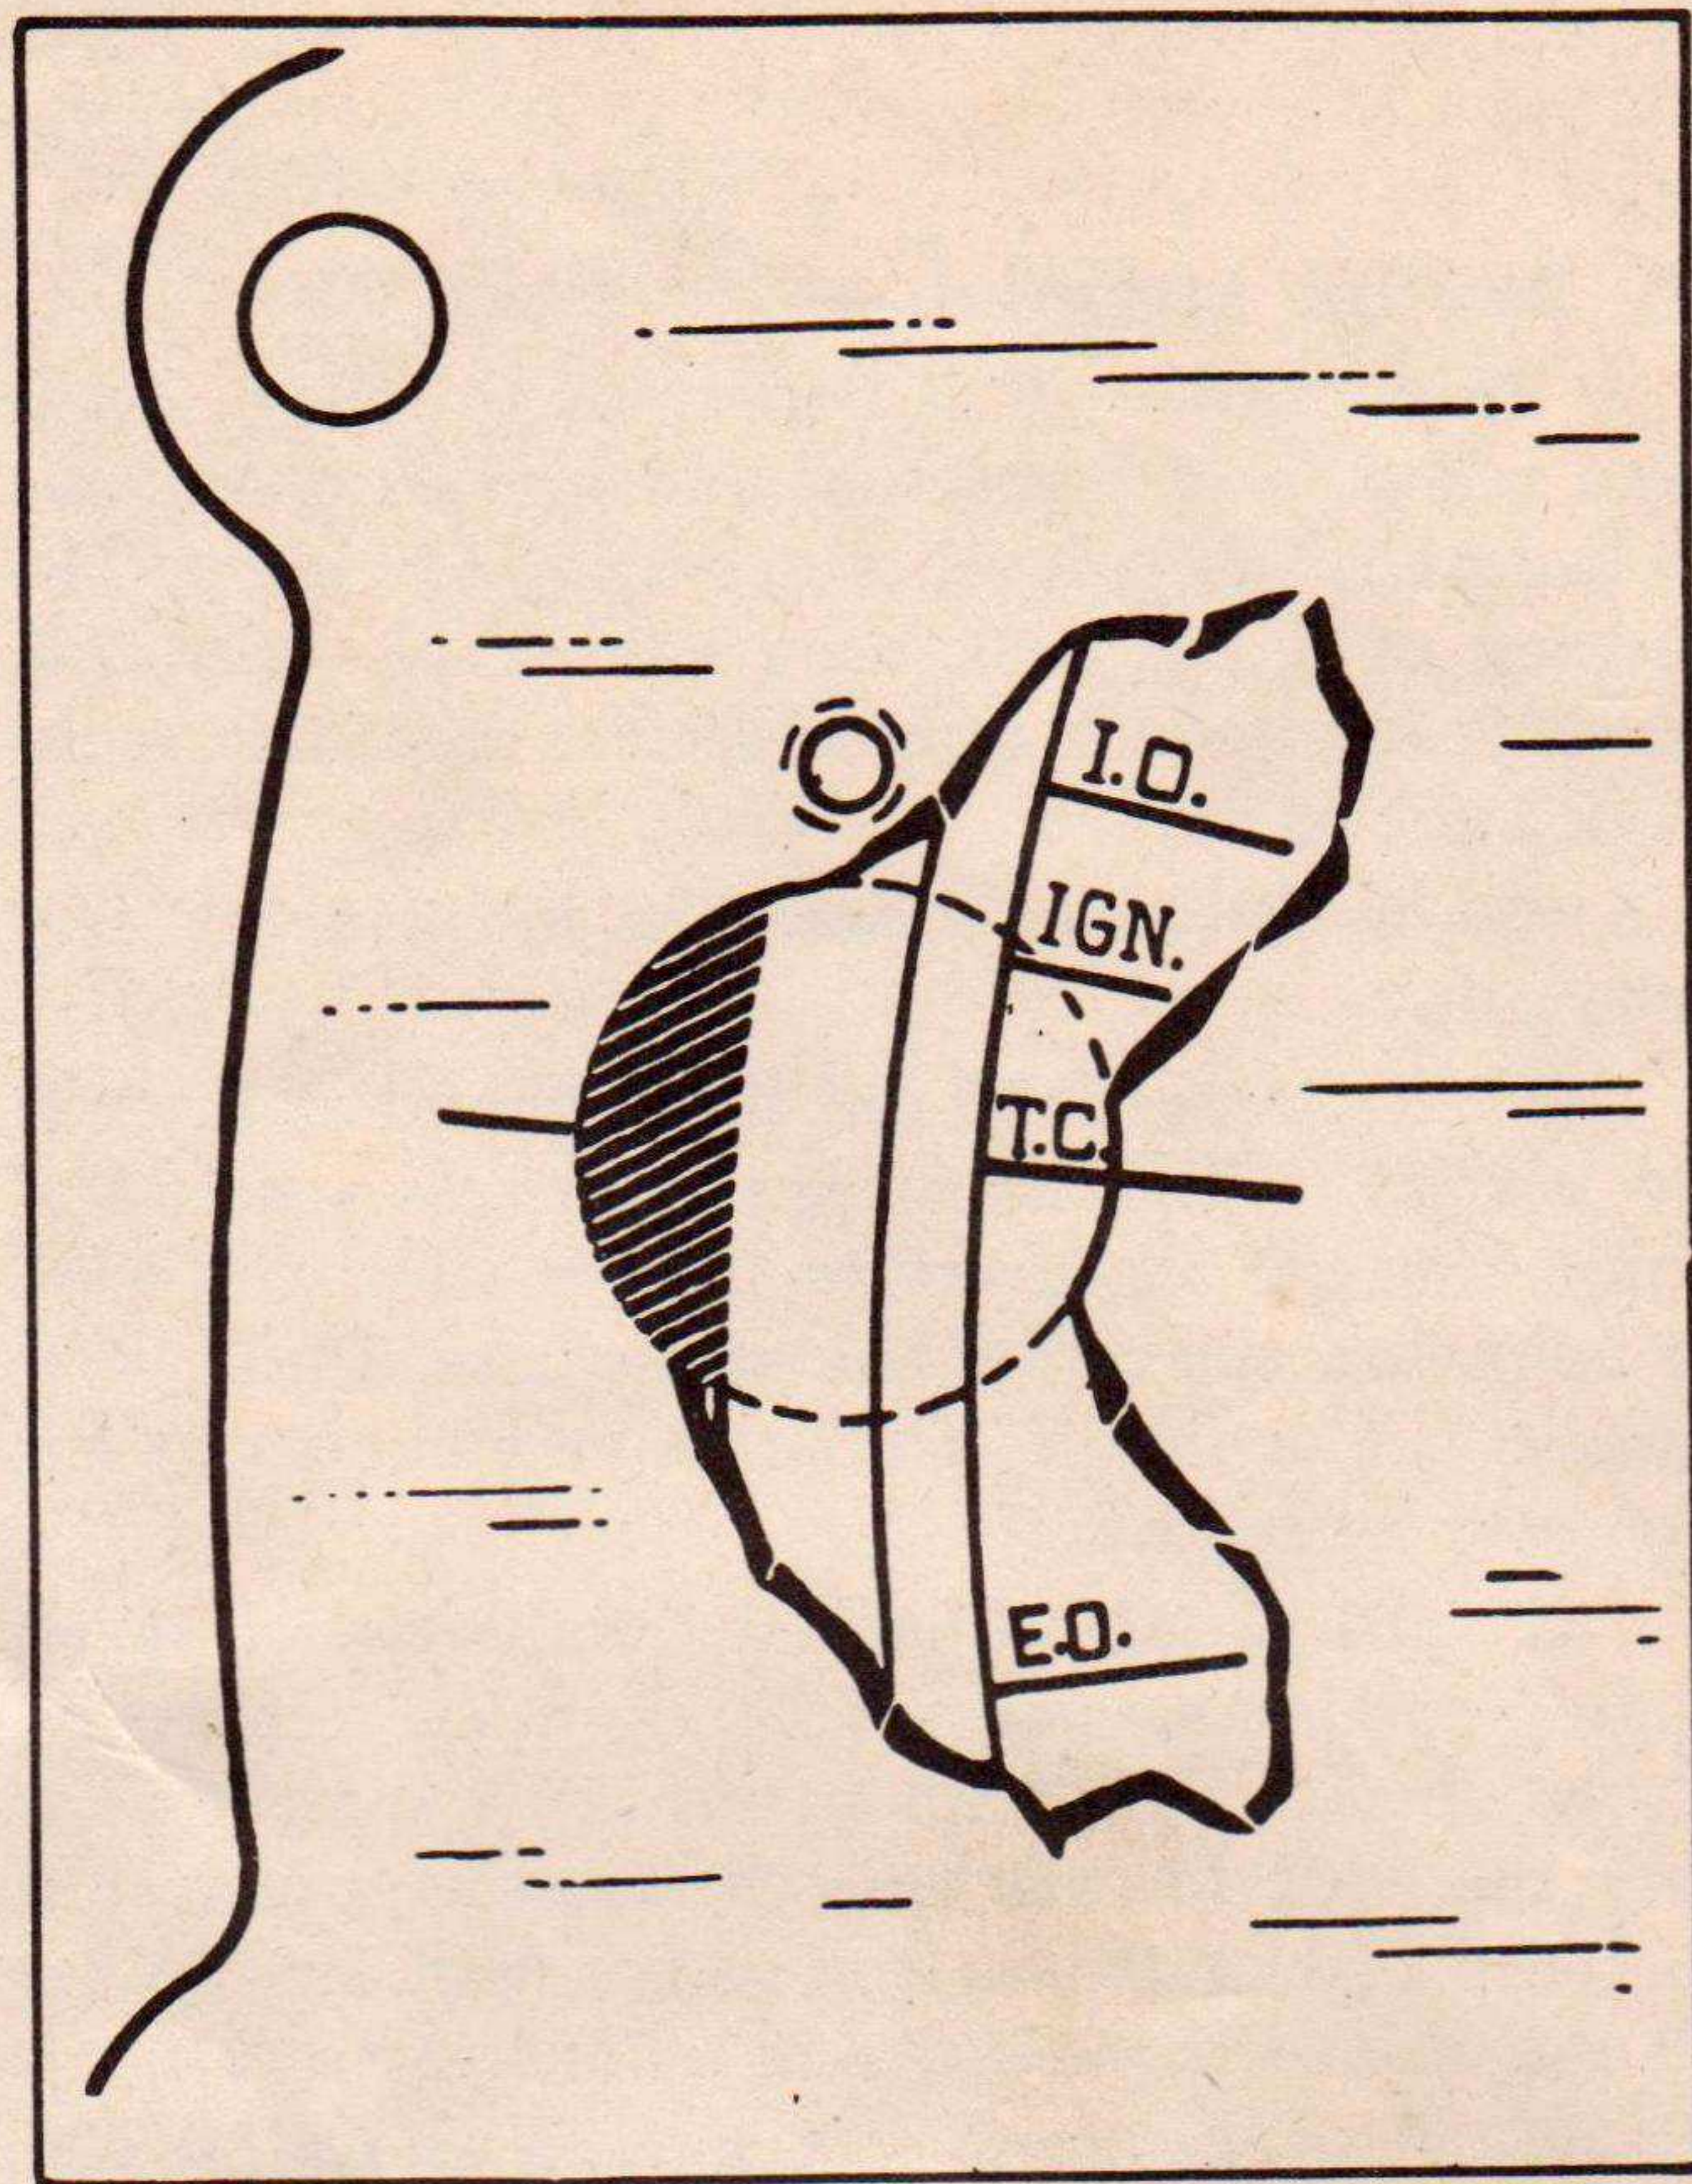

FIG. 16 TIMING MARKS (FLYWHEEL)
(5) *Ignition Timing.*—Check the ignition timing by using a neon timing light, if available, and make any adjustment needed. A small arm attached to the throttle shaft arm may be turned over and forward to a position that will hold the throttle at an idle position and cause the engine to operate at the moderate speed necessary for use of the neon timing light. If the neon timing light is not available, crank the engine very slowly by hand, stopping exactly when the breaker contacts separate at firing position for No. 1 cylinder. Then check the position of the IGN mark on the flywheel, (Fig. 16) as seen through the timing hole in the flywheel housing on the left side of the engine. Timing is correct if the IGN mark is at the center of the hole at the instant the points separate. Repeat the checks a time or two for accuracy. If necessary to adjust the timing, loosen the clamp bolt, turn the distributor body to the proper position and tighten the bolt. Then recheck to verify the correctness of the new setting.